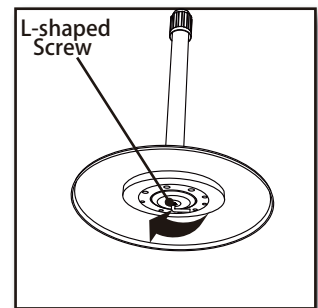

Figure 3
3. Insert the telescopic pole into the top of the base ring and base. Install the L-shaped screw with the metal ring through the weight support to the threaded hole in the bottom of the telescopic pole to secure the pole to the base. Figure 3